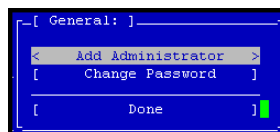

Figure 204. General Settings Window
1. On the Configuration Interface main menu, tab to General Settings and press Enter. The General window opens, shown in Figure 204.